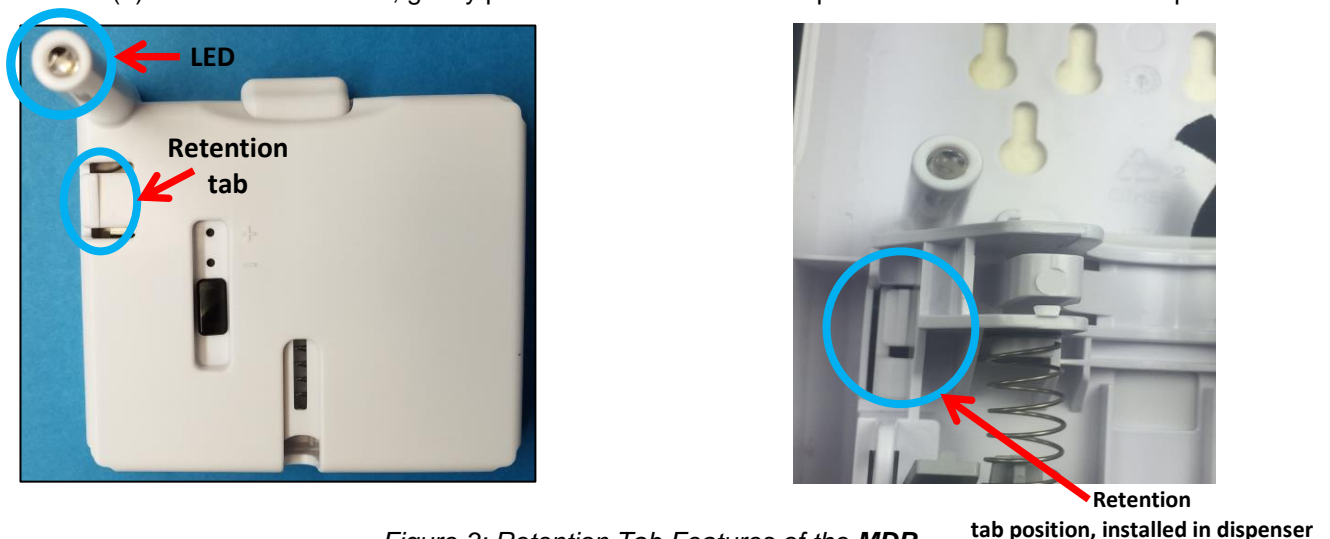

Figure 3: Retention Tab Features of the **MDB**
- (1) Open the dispenser by depressing the top latch button.
- (2) Remove product bottle (if any) from the dispenser and set aside
- (3) With one hand, gently depress the retention tab (see Figure 3) to release the **Beacon** and allow it to be removed.
- (4) With the other hand, gently pull the **MDB** out of the compartment at the back of the dispenser.
3. With one hand, gently depress the retention tab (see Figure 3, above) to release the beacon and allow it to be removed.
6. Once the battery compartment door has been removed, install two (2) AA alkaline batteries, aligning the positive (+) and negative (-) terminals of the batteries with the corresponding signs displayed within the battery compartment (Ecolab recommends that only Duracell® Coppertop batteries be used to power the module.)